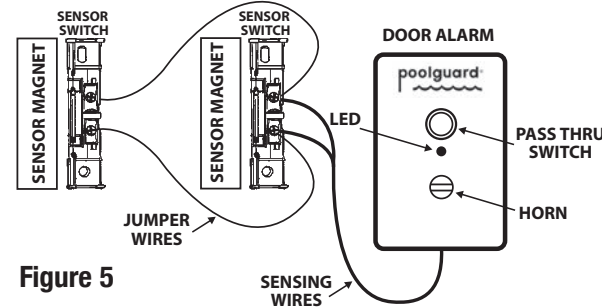

Figure 5
- If you purchased the **OPTIONAL** Screen Door Kit see section 7. (Figure 5)